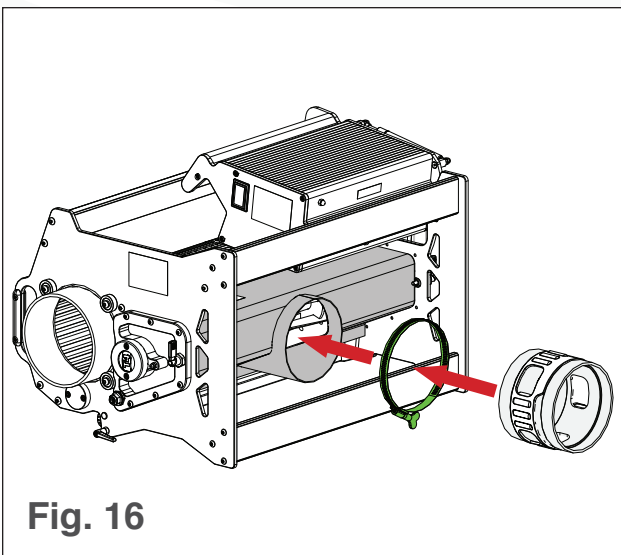

Fig. 16
2. Place a hose clamp over the top of the vacuum attachment coupling (see Fig. 16).
3. Slide the coupling over the vacuum shroud (see Fig. 16).